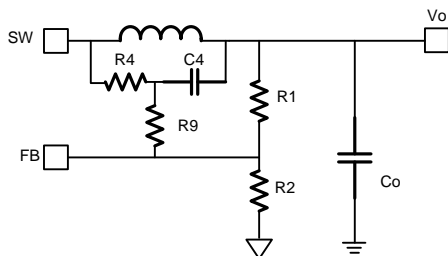

Figure 12—Simplified circuit with external ramp
C4 acts as a feed-forward capacitor to improve the transient and can be set in the range of 0 pF-1000 pF. A larger value for C4 leads to better transient, but it is more noise sensitive. Reserve room for a noise filter resistor (R9) as shown in Figure 12. The value is calculated with Equation (5).
Besides the R1 & R2 divider, the output voltage is influenced by R4 (see Figure 12). R2 should be chosen reasonably, a small value for R2 leads to considerable quiescent current loss while too large a value for R2 makes the FB noise sensitive. It is recommended to choose a value within 5 kΩ-50 kΩ for R2. Use a comparatively larger value for R2 when V_o is low and a smaller value for R2 when V_o is high. The value of R1 then is determined using Equation (4):